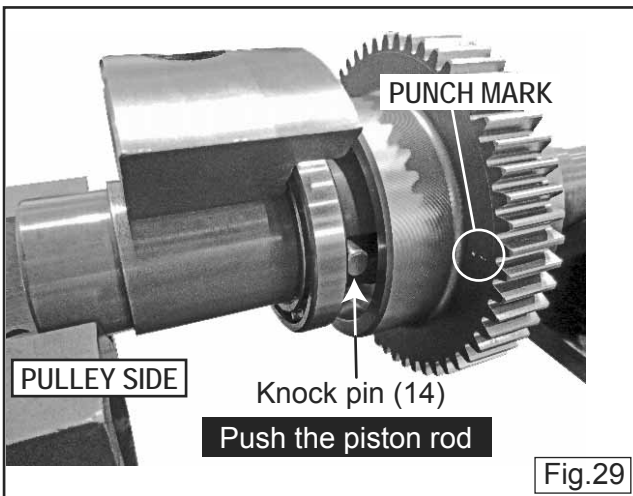

Fig.29
- ③ Put the eccentric rotator of driven shaft to the upper side, then push the piston rod into the driven shaft.
④ Put the punch mark of driven gear to the pulley side, then insert it to the driven shaft. At this time, set the driven gear by turning its punch mark to the right side when seeing from the pulley side. (Fig. 29)